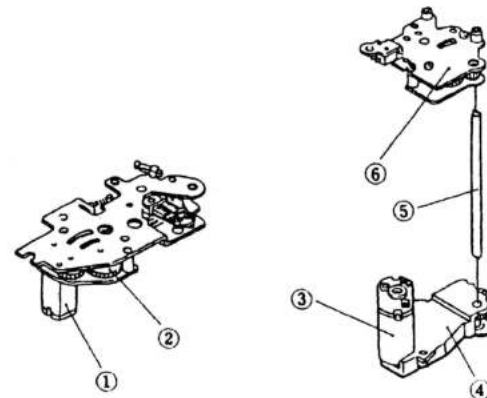

Fig.2 Winding and Rewind Units
(2) Film Winding and Rewind Mechanisms
Fig.2 shows the structure of the Winding and Rewind Mechanisms. For winding, the dedicated high - performance miniature motor ① incorporated in the spool drives the Winding Spool via the Gear Train ② having a proper reduction ratio.